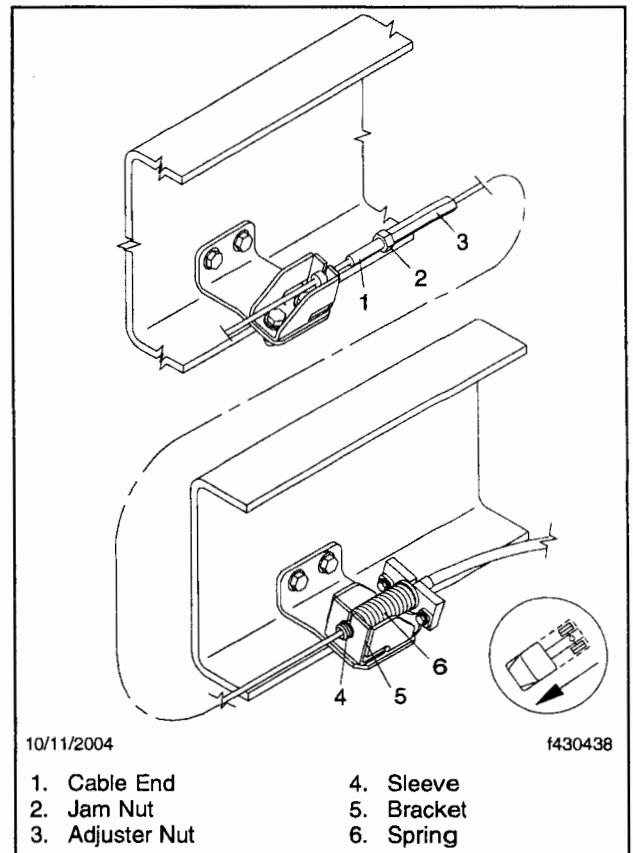

Fig. 9, Cable Adjustment, Foot-Pedal-Actuated Parking Brake
- 23.2 At the right frame rail, forward of the parking brake, back off the jam nut a few turns, then thread the cable adjuster onto the cable end to the jam nut. See **Fig. 9**.